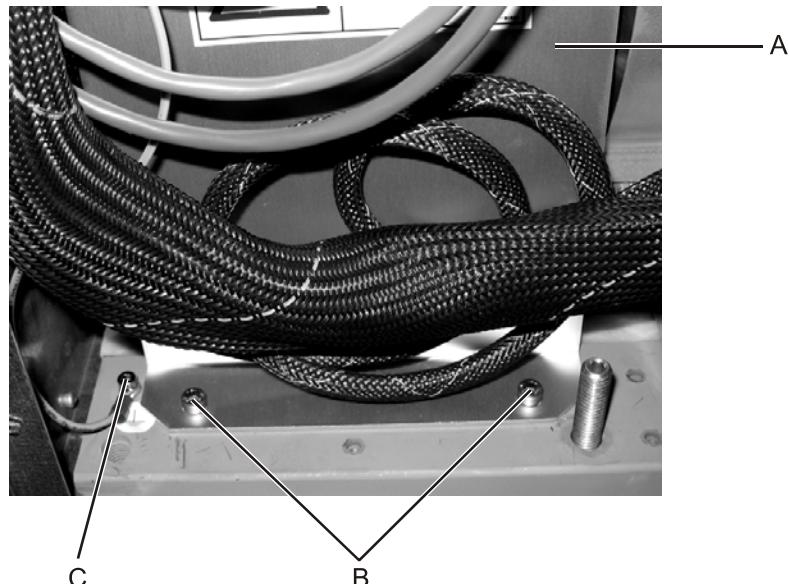

Figure 89: Removing the gas circulation fan cover sheet
4. Use the 4 mm allen key to unscrew the two securing screws (see Figure 89, B) and remove the gas circulation fan cover sheet (A).